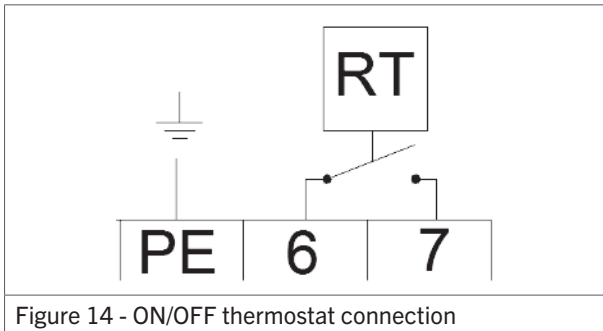

Figure 14 - ON/OFF thermostat connection
- Connect the two thermostat wires to terminal 6 and 7 (see figure 14 or the electrical wiring diagram in §9). This is a 24 V connection for the thermostat signal.